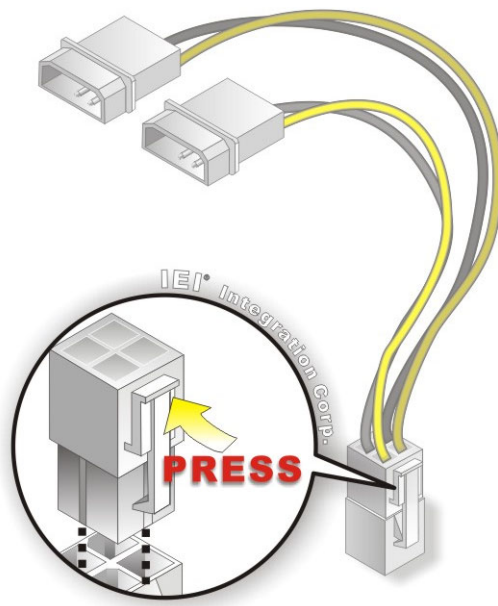

Figure 4-18: Power Cable to Motherboard Connection
Step 2: **Connect the Power Cable to the Motherboard.** Connect the 4-pin (2x2) Molex type power cable connector to the power connector on the motherboard. See Figure 4-18.